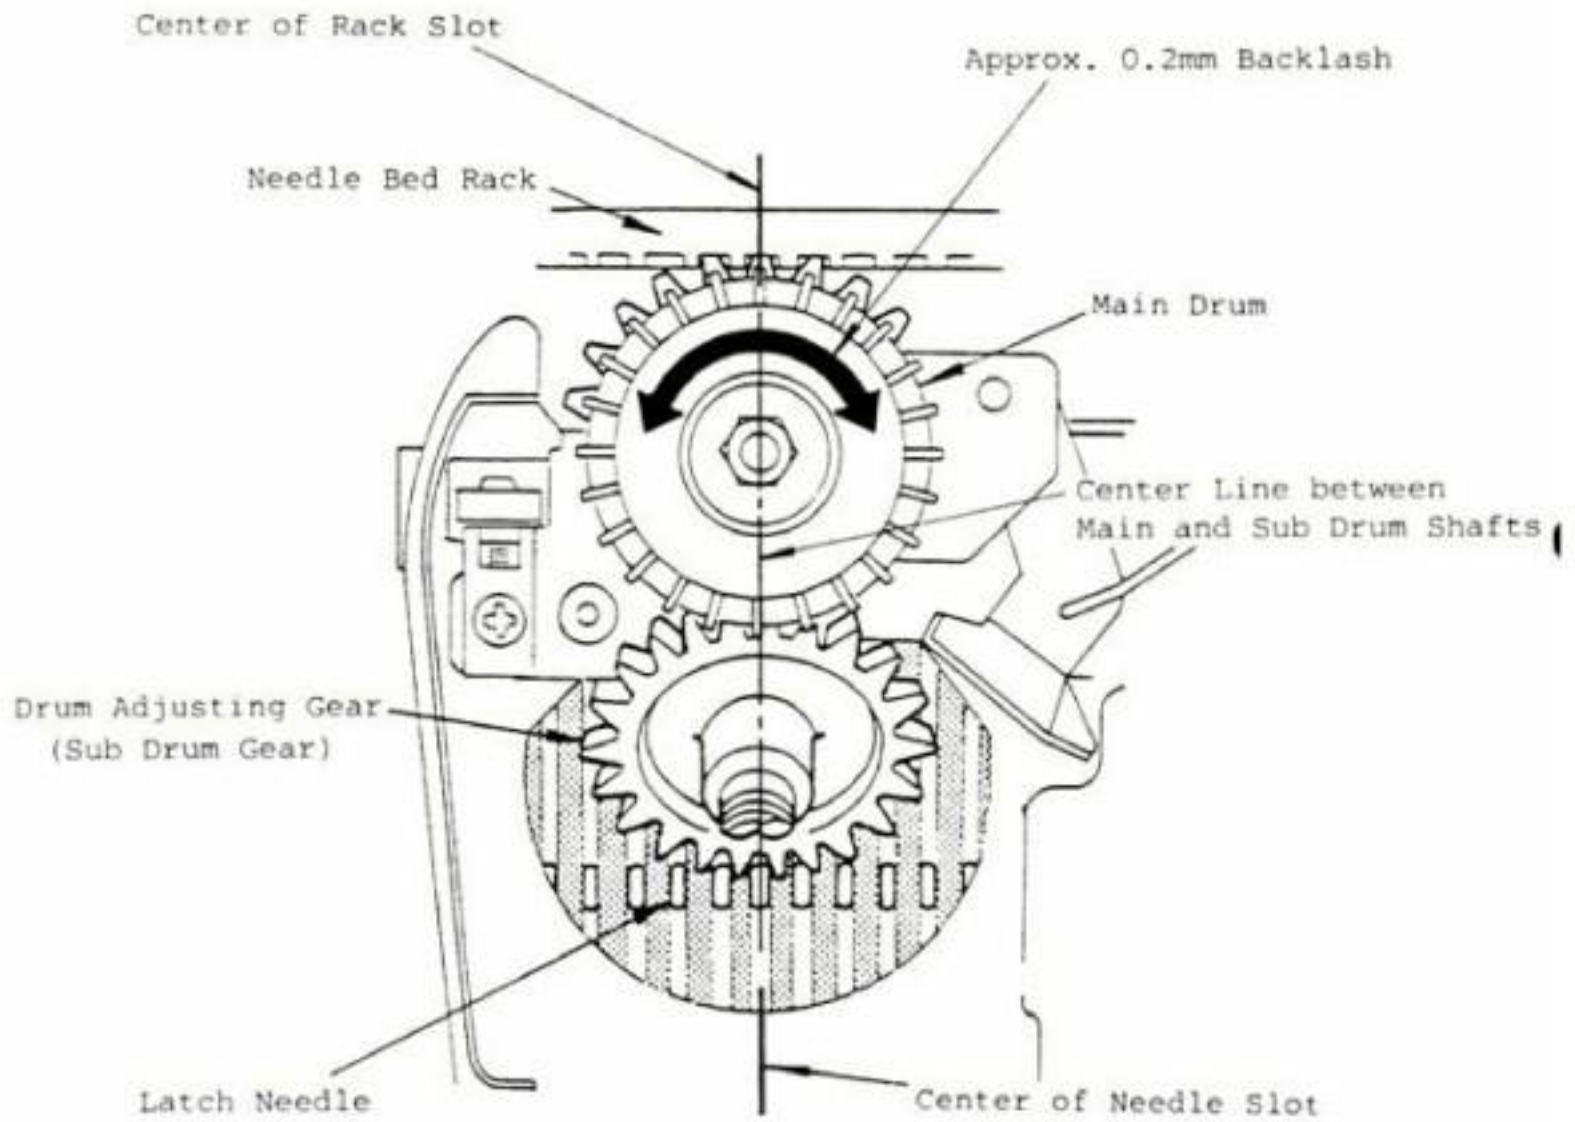

FIG.10
2. With the notch of Drum Adjusting Gear fitted to Needle Slot, move Drum Base Unit to align the center line between Main and Sub Drum Shafts with the center of Needle Slot and Rack Slot as shown in Figure 10, using the blade of -Screwdriver. Simultaneously, obtain the main drum backlash of approx. 0.2mm circumferential against Needle Bed Rack.